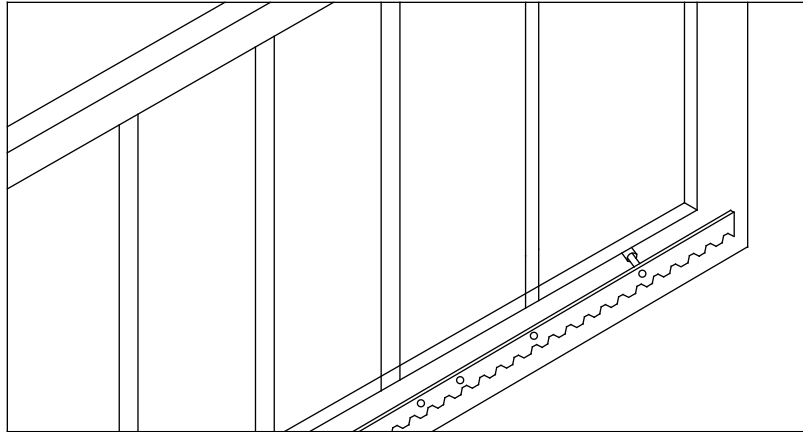
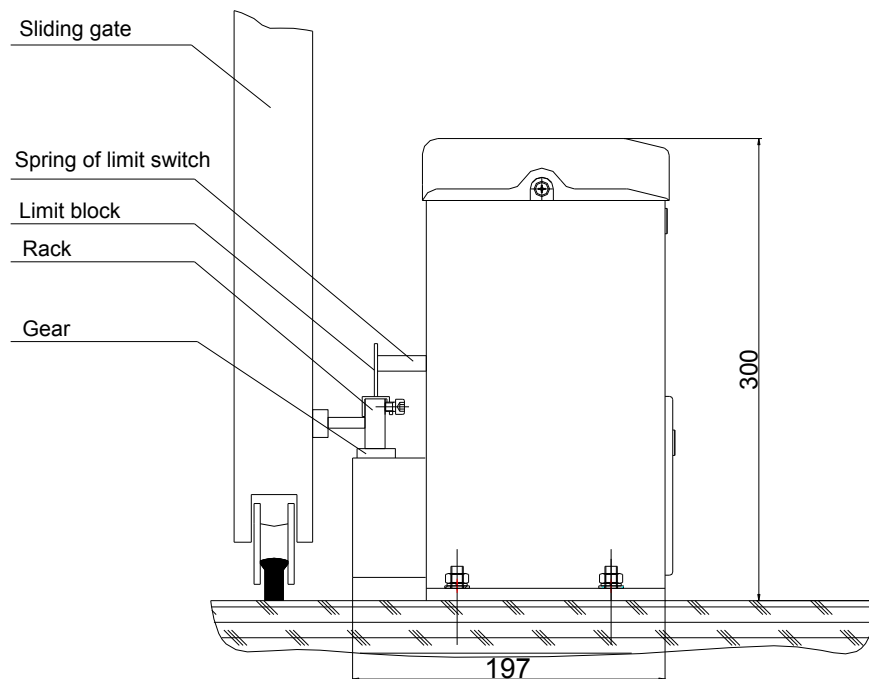

Fig.4
Fig.5
- Install the limit block as shown in Fig.4 and Fig.5. The spring limit switch and blocks are used to control the position of the gate.